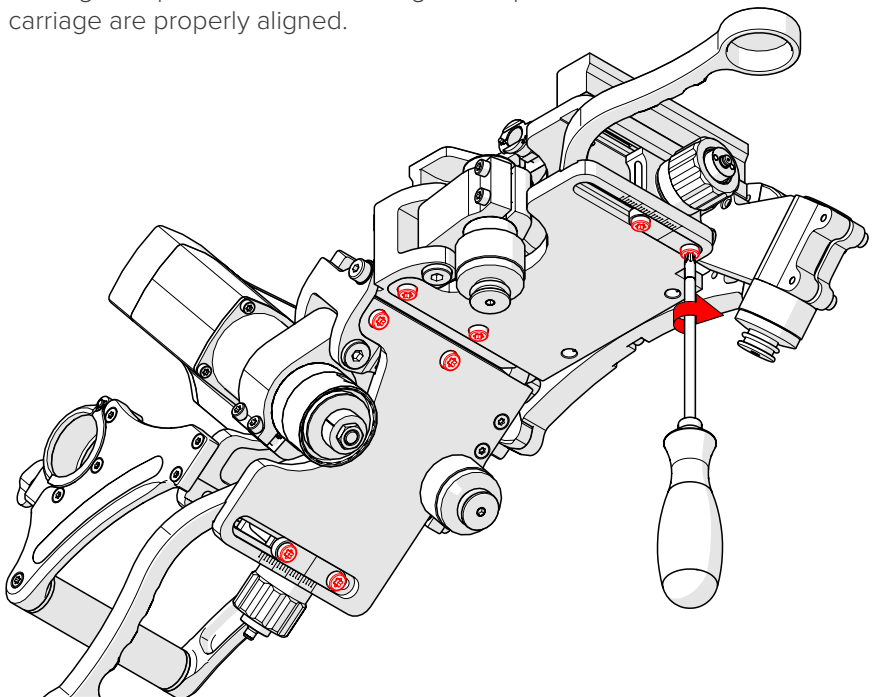

Fig. 71 - Tighten screws
5. Tighten the width adjustment screws (Fig. 71).